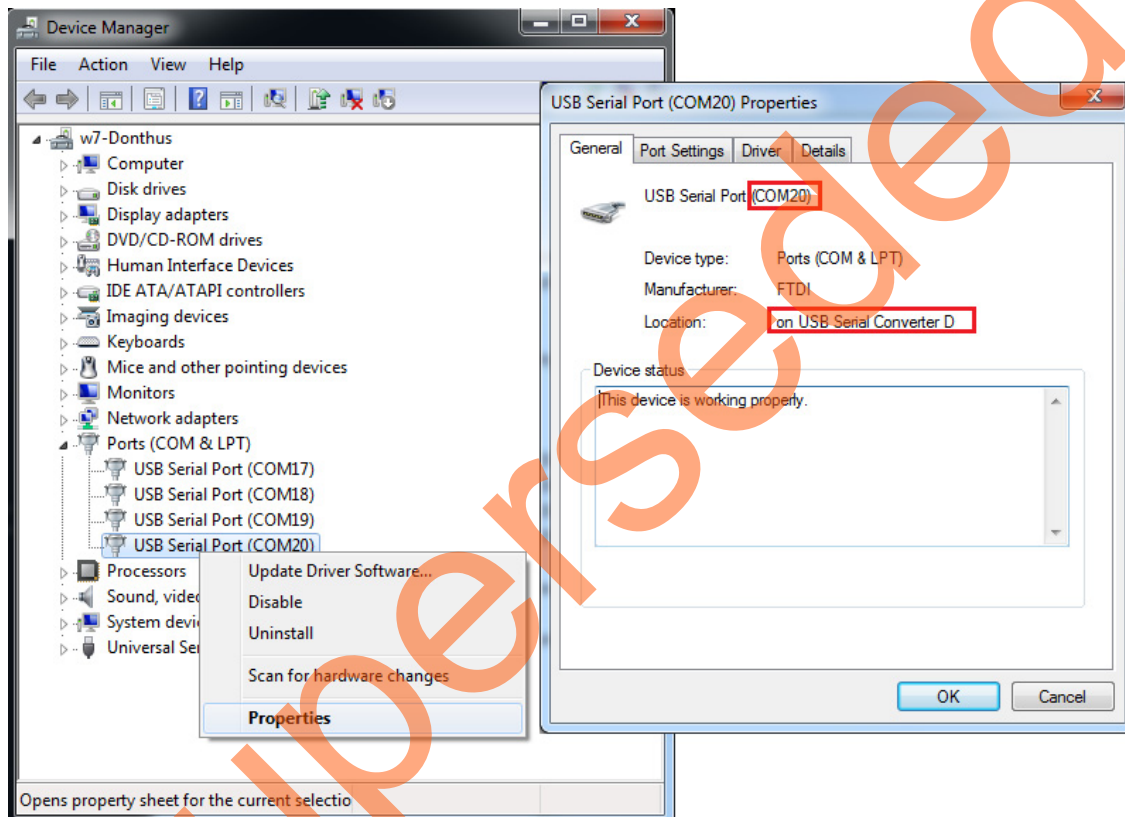

Figure 16 • USB to UART Bridge Drivers
2. Connect one end of the USB mini-B cable to the J24 connector provided on the SmartFusion2 SoC FPGA Development Kit. Connect the other end of the USB cable to the host PC. Make sure that the USB to UART bridge drivers are automatically detected (can be verified in the Device Manager), as shown in Figure 16.
Note: Copy the COM port number for serial port configuration. Ensure that the COM port location is specified as "on USB Serial Converter D", as shown in Figure 16.